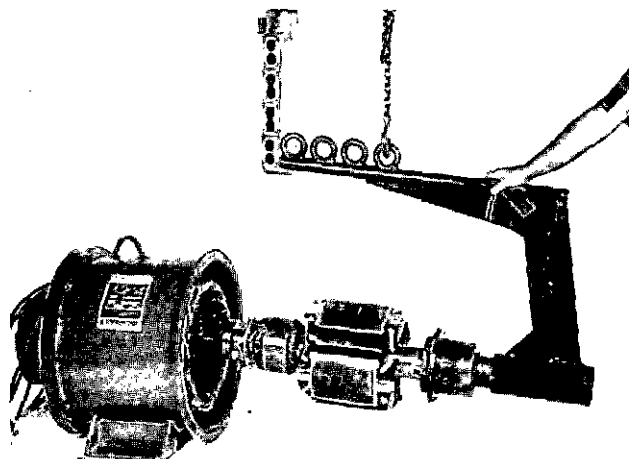

FIGURE 6-19
6. Using a rotor lifting fixture and a suitable hoist, carefully remove the rotor assembly from the main stator and frame assembly through the drive end. (Figure 6-19.)